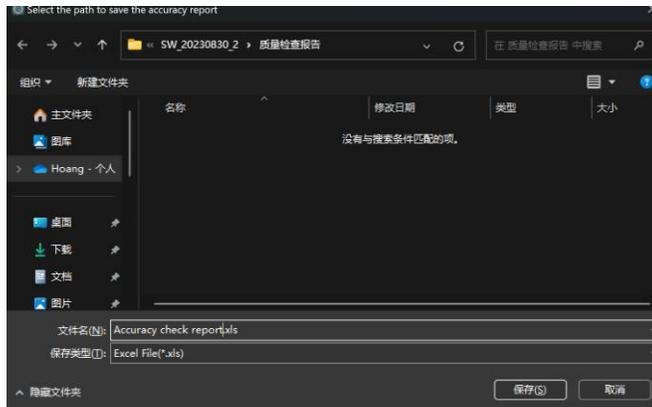

Figure 3-76 Export Report
- (5) Click "Export Report" to save the report and jump to the report saving interface (Figure 3-76).